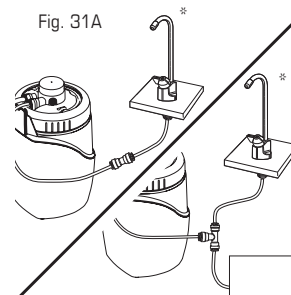

Fig. 31A
8. The other end of the BLUE tube marked at  $\frac{3}{4}$ " (18mm) connects to the NON-eSpring Faucet or dispensing device by inserting BLUE tube into the Tubing Reducer Connector. Follow manufacturer's installation instructions to connect the other end of the connector to the faucet or dispensing device (Fig. 31A).